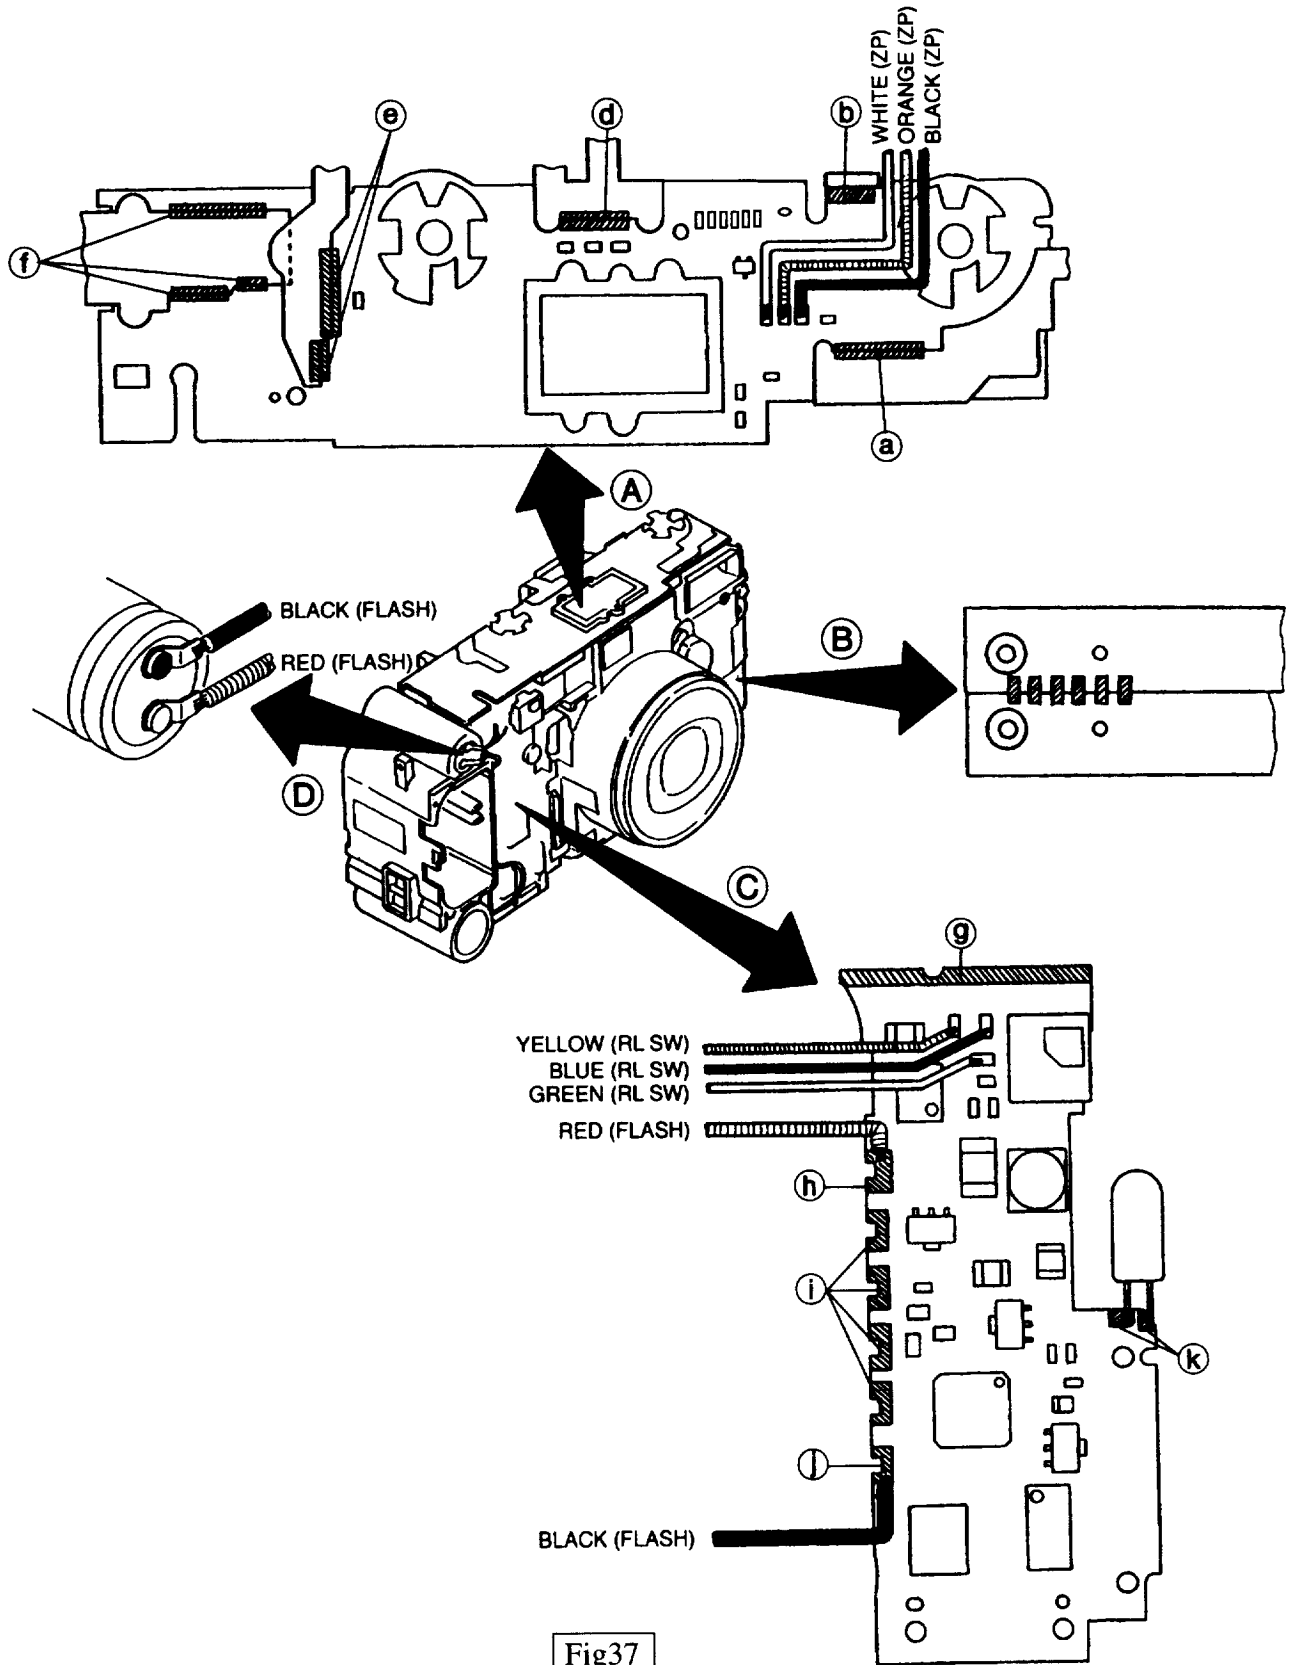

Fig37
(17) Solder 6 soldering point between the IF FPC and the MOTOR FPC. (Fig. 37, (B))
- (6) Solder 23 soldering point between the MAIN PCB and FRONT PCB. (Fig. 37,(C)-(g))
- (7) Solder 6 soldering point between the MAIN PCB and MOTOR FPC. (Fig. 37, (A)-(a))
- (8) Solder 13 soldering point between the MAIN PCB and D FPC. (Fig. 37, (A)-(f))
- (9) Solder 9 soldering point between the MAIN PCB and AF FPC. (Fig. 37, (A)-(e))
- (10) Solder 6 soldering point between the MAIN PCB and LED FPC. (Fig. 37, (A)-(d))
- (11) Solder 3 soldering point between the MAIN PCB and FLASH PCB. (Fig. 37, (A)-(b))
- (12) Solder three LEAD WIRES (Black, Orange, White: ZP PLATE) on the MAIN PCB. (Fig. 37, (A))
- (13) Solder 4 soldering point between the FRONT PCB and the DX CONTACTS. (Fig. 37, (C)-(i))
- (14) Solder 2 soldering point between the FRONT PCB and the BATTERY CONTACTS. (Fig. 37, (C)-(h),(i))
- (15) Solder three LEAD WIRES (Blue, Green, Yellow: RL SW) on the FRONT PCB. (Fig. 37, (C))
- (16) Solder two LEAD WIRES (Black, Red: FLASH POWER) on the FRONT PCB. (Fig. 37, (C))
- (17) Solder two AF LAMP WIRES on the FRONT PCB. (Fig. 37, (C)-(k))